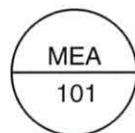

Figure 53. Instrument Tag
10. Determine the measured variable indicated in the instrument tag in figure 53.